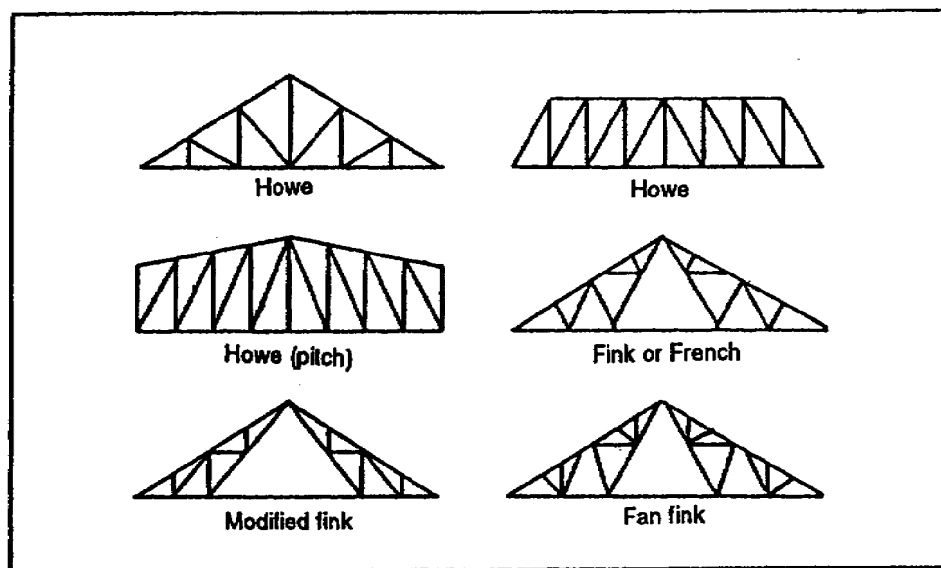

**Figure 3-19. Truss**
(1) Bottom chord. A member that forms the lower boundary of the truss (see Figure 3-19).